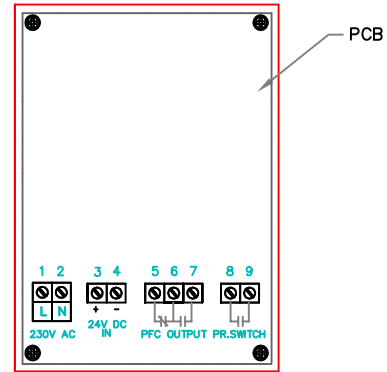

FIG. 2
3. Provide either 230V AC or 24V DC supply as shown in Fig.2.